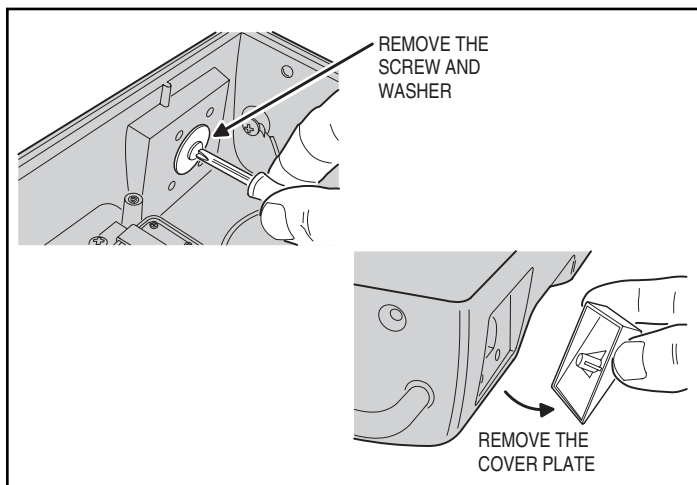

Figure 13. Removing the Keyswitch Hole Access Plate
2. Remove the screw and washer that retain the keyswitch hole access plate (see Figure 13).